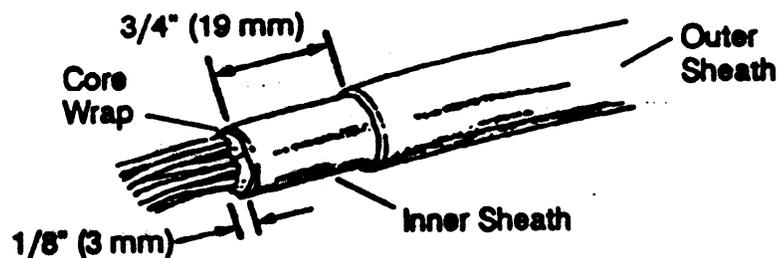

Figure 4.2 - Preparation of Double Sheath Cable
4.02 For use on double sheath cables, cut shield flush with the sheath. Remove 3/4" (19mm) of outer cable sheath exposing the inner sheath. Remove 1/8" (3mm) of inner sheath exposing the core wrap. See Figure 4.2, this prepares the sheath for installation of the 4460-D.